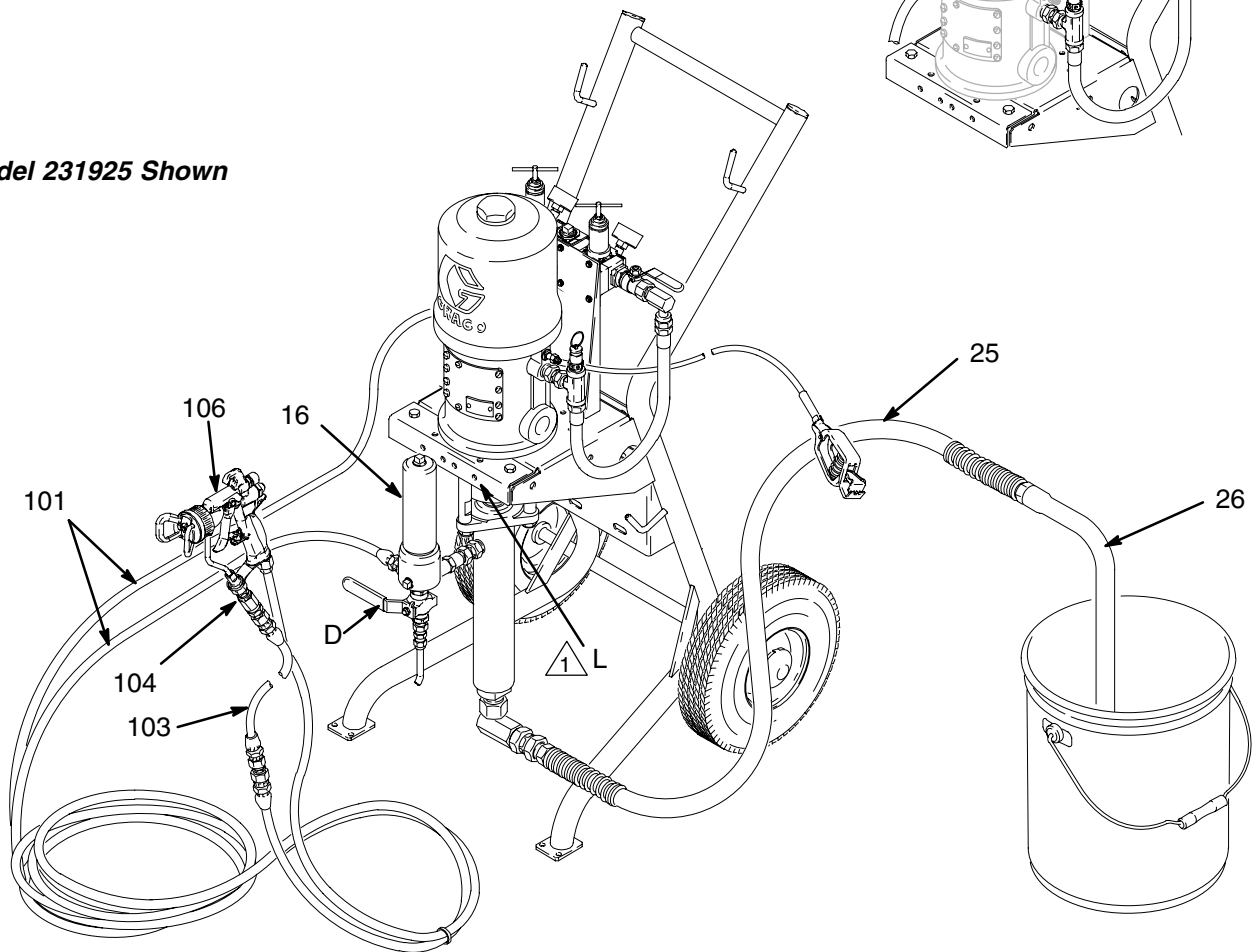

Fig. 3
1. See Fig. 3. Remove the tip guard and spray tip from the gun (106). See the gun manual.
2. Close the gun air filter/regulator (G), pump air regulator (F), and bleed-type air valves (B, E).
3. Close the fluid drain valve (D). Open the fluid regulator (201), if present.
4. Connect the air line (A) to the swivel of the air manifold (H).